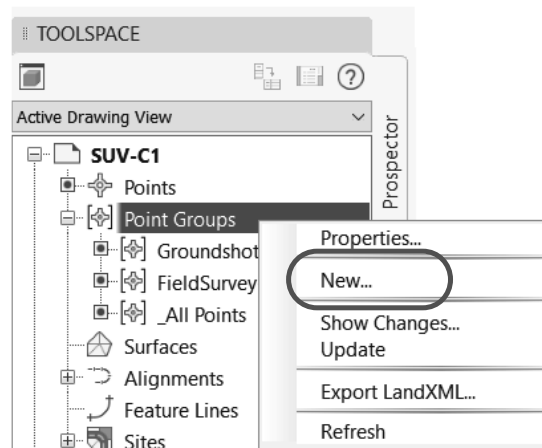

Figure 2–49
3. In the Toolspace>*Prospector* tab, select **Point Groups**, right-click, and select **New...**, as shown in Figure 2–49.
4. In the Point Group Properties dialog box, in the *Information* tab, type **Boundary Pin Survey** in the *Name* field, type **Collected April 30, 2021** as a *Description*, set the *Point style* to **ASC-Iron Pin**, and set the *Point label style* to **ASC-Elevation and Description**, as shown in Figure 2–50.